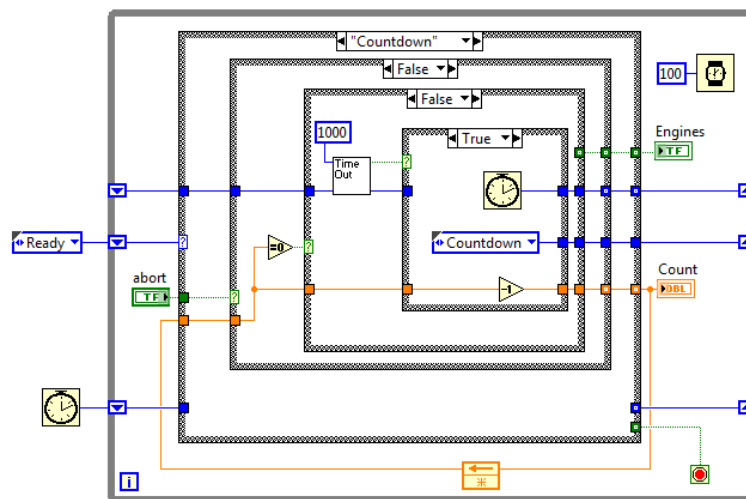

FIGURE 2.17 The Countdown state showing the code to handle expiration of the 1 second timeout.
- Use the Timeout VI you made earlier, and a new, innermost case structure to give the code shown in Fig. 2.17. The case showing is what we do when the 1 second timeout has expired: we decrement Count by 1, and stay in the Countdown state.